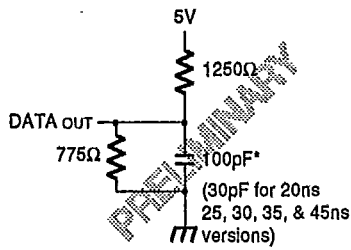

Figure 1. Output Load
| Output Load | See Figures 1, 2, & 3 |
1. Transition is measured ±500mV from low or high impedance voltage with load (Figures 1, 2 and 3).
1. Transition is measured $\pm 500mV$ from low or high impedance voltage with load (Figures 1, 2, and 3).